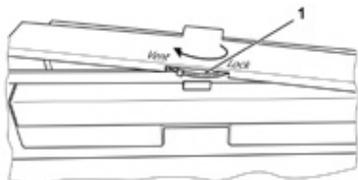

Fig 4
The refrigerator has a locking mechanism (Fig.4) which is also used to protect it during transport. The following settings are possible:
- ▶ Turn the locking wheel (Fig 4) anti-clockwise to the end stop ("Vent").